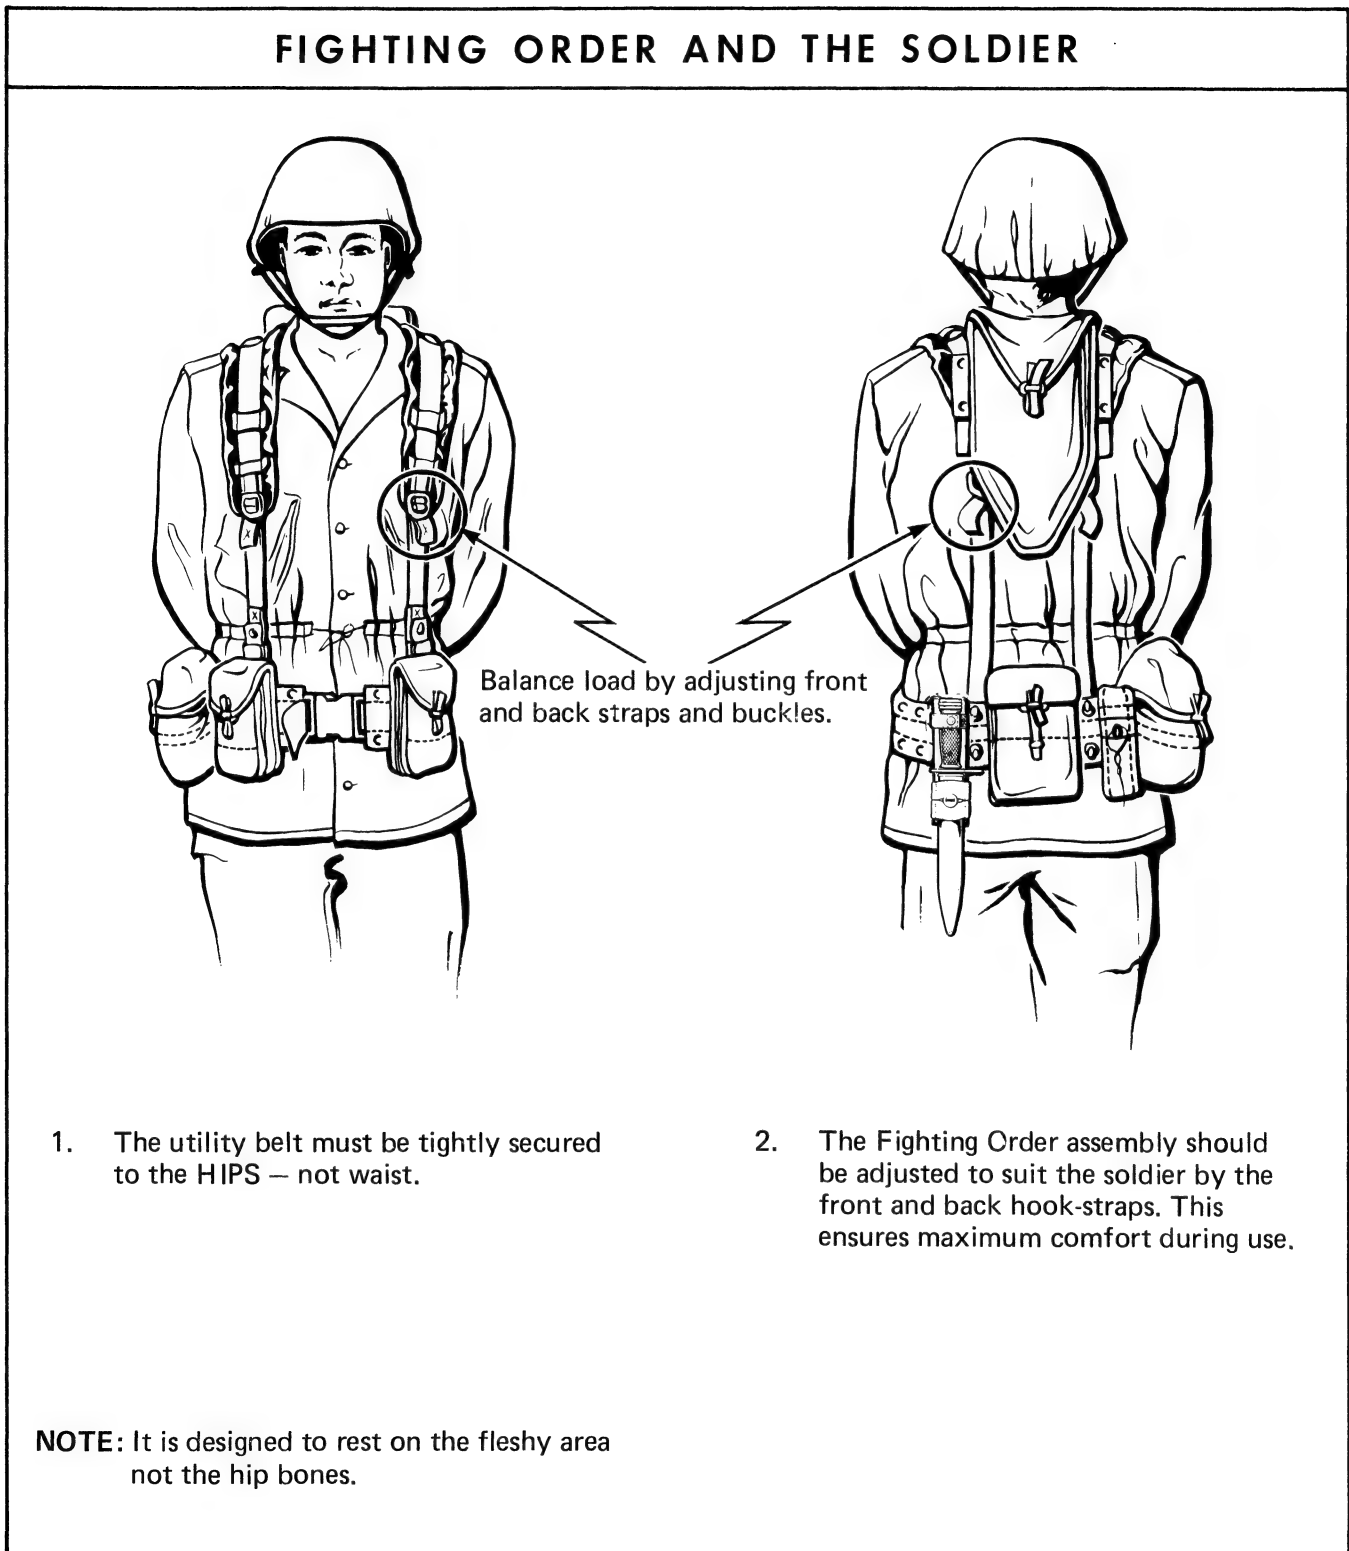

Figure 2-5 Fighting Order and the Soldier
5. Refer to Figure 2-5 for details.